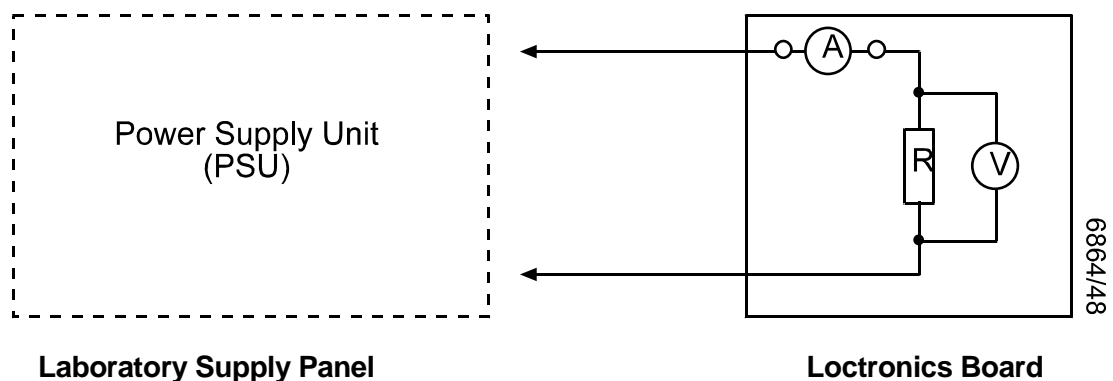

Figure 4
- c. Connect the circuit as shown, in figure 4, using the 1 k Ω resistor.